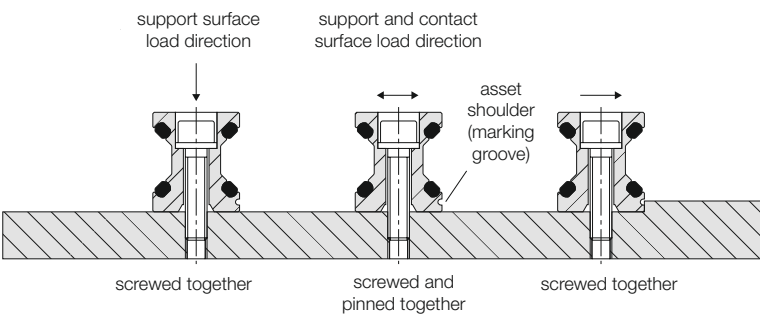

Figure 5: Mounting rail
- 3. be placed against a asset shoulder and screwed together (Figure 5).